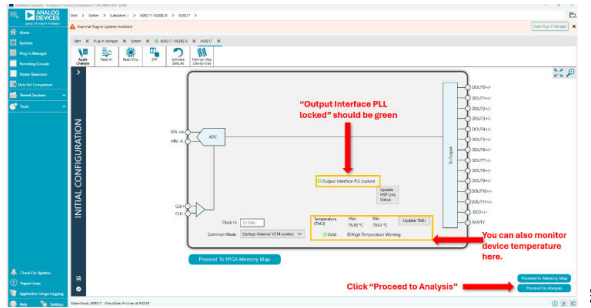

Figure 12. Output Interface PLL Locked (Green)
13. **Output Interface PLL Locked** appears in green (see Figure 12). Confirm that **Common Mode** is set to **Startup: Internal VCM control** and then click **Proceed to Analysis**. Note that you can also monitor the device temperature.